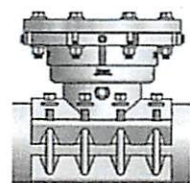

Figure 3
7. Install the bottom half of the line stop fitting over the tapered ends of the mat gasket ensuring they are flat and smooth against the pipe surface. Visually inspect gasket to ensure tapered ends are not folded or rolled under themselves. Install stainless steel bolts, washers and nuts (See Figure 3). Finger tighten, ensuring gaps between top half and bottom half of the line stop fitting are the same front to back and side to side (within 1/8"). NOTE: It is acceptable to invert the middle two bolts on each side of the 4" line stop fitting to utilize a socket wrench for installation.